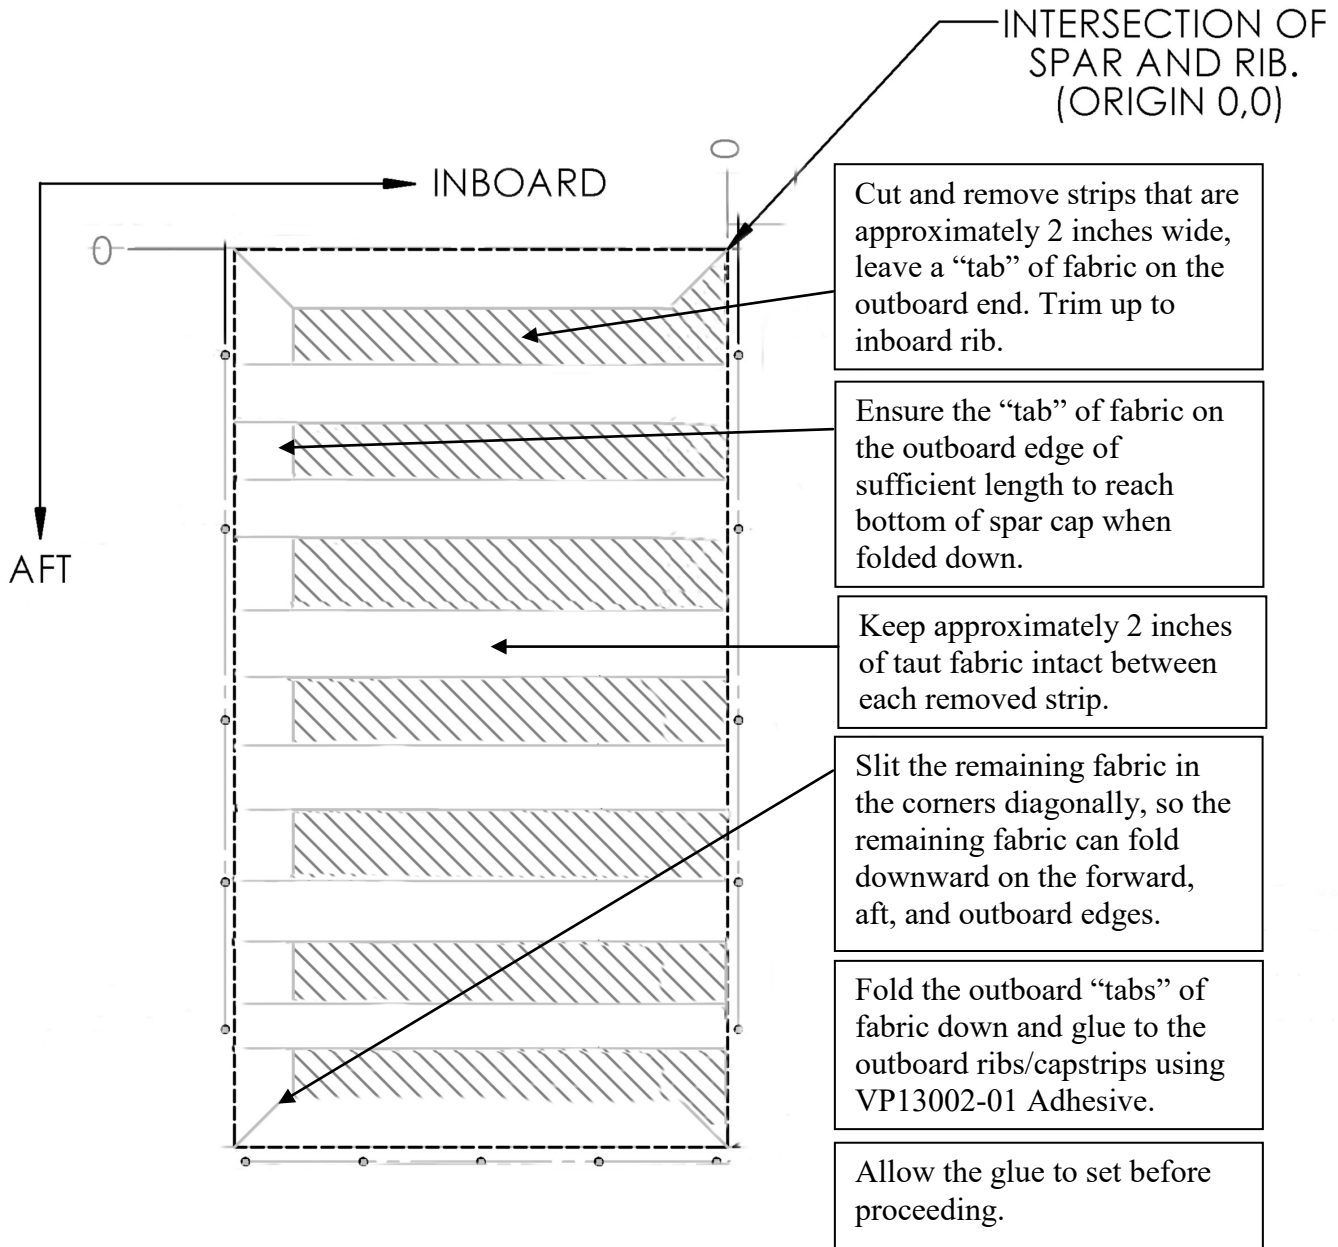
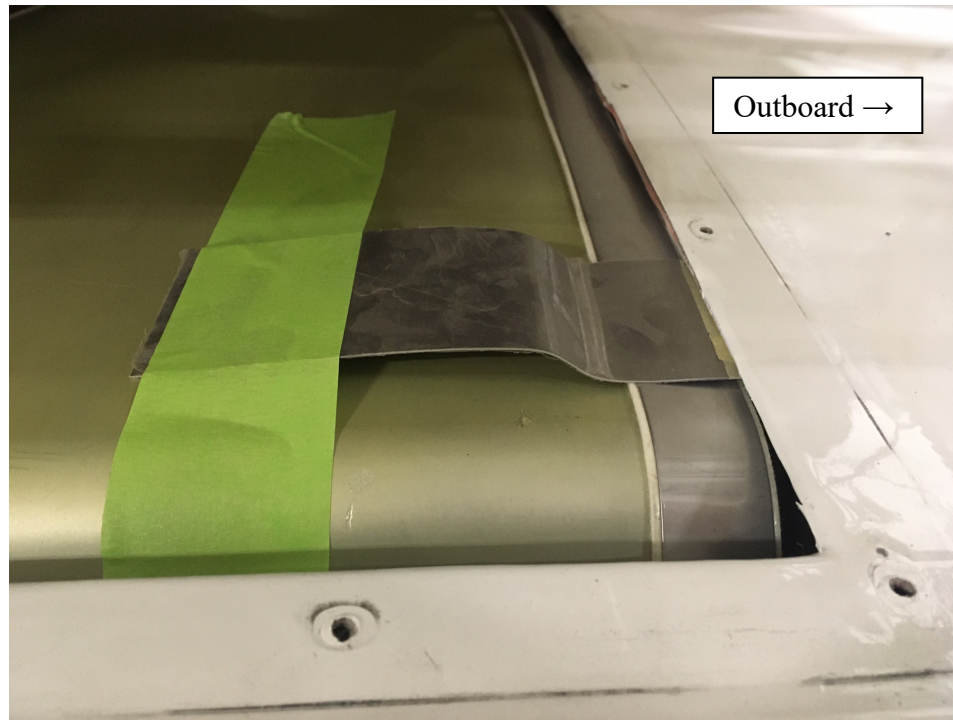

Figure 3b – Tank Bay Hole, Fabric Cutting
Figure 3d – Holding Outboard Fabric Underneath Capstrip While Gluing
11. Cut out fabric in the first rib bay as shown in figures 3b and 3c. Cutting strips will help preserve fabric tension by gluing the outboard fabric flaps (in two stages) to the ribs/capstrips using adhesive 3m Super Weatherstrip Adhesive (VP13002-01). It may be useful to use bent pieces of sheet metal to "clamp" the fabric strips with upward force while gluing under the capstrips. See figure 3d.